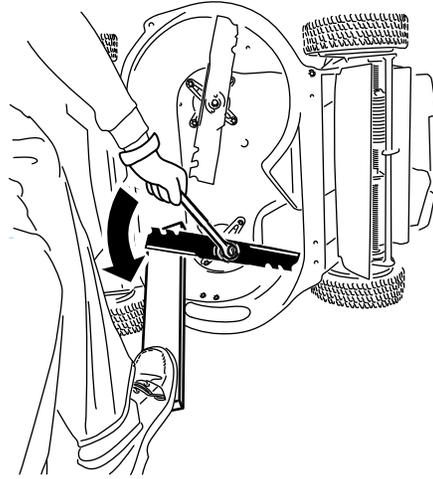

Figure 31
1. Use a block of wood to hold each blade steady and turn the blade bolt counterclockwise as shown in Figure 31.